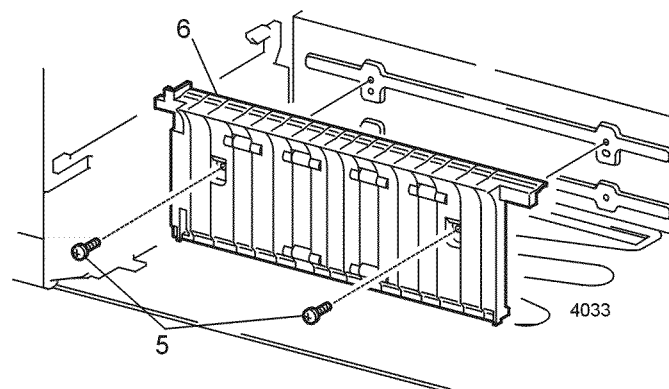

Figure 1 Rear Chute Assembly
5. Remove the two screws that secure the Rear Chute Assembly to the printer (Figure 1).
6. Bias the Rear Chute to the left. Pull the top of the chute forward and remove it from the printer (Figure 1). Use care not to damage the ground tabs.